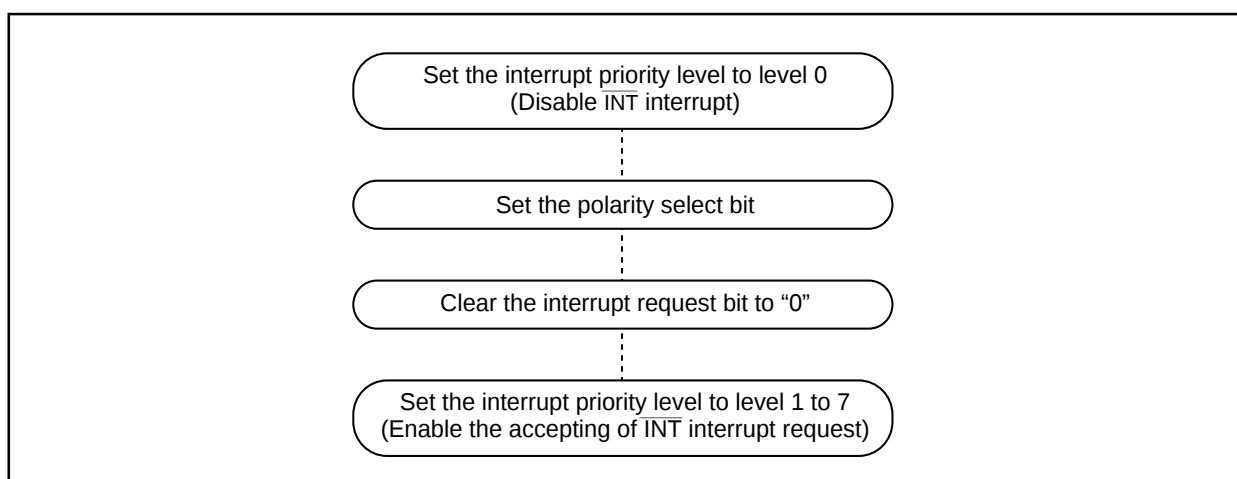

Figure 1.27.2. Switching condition of  $\overline{\text{INT}}$  interrupt request
- When the polarity of the INT0 to INT5 pins is changed, the interrupt request bit is sometimes set to “1”. After changing the polarity, set the interrupt request bit to “0”. Figure 1.27.2 shows the procedure for changing the  $\overline{\text{INT}}$  interrupt generate factor.